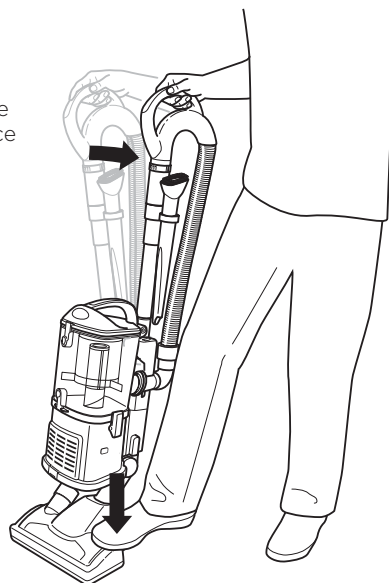

Fig. 12
- 4 To activate the brushroll, step lightly on the floor nozzle, then tilt the handle back. (Fig. 12)